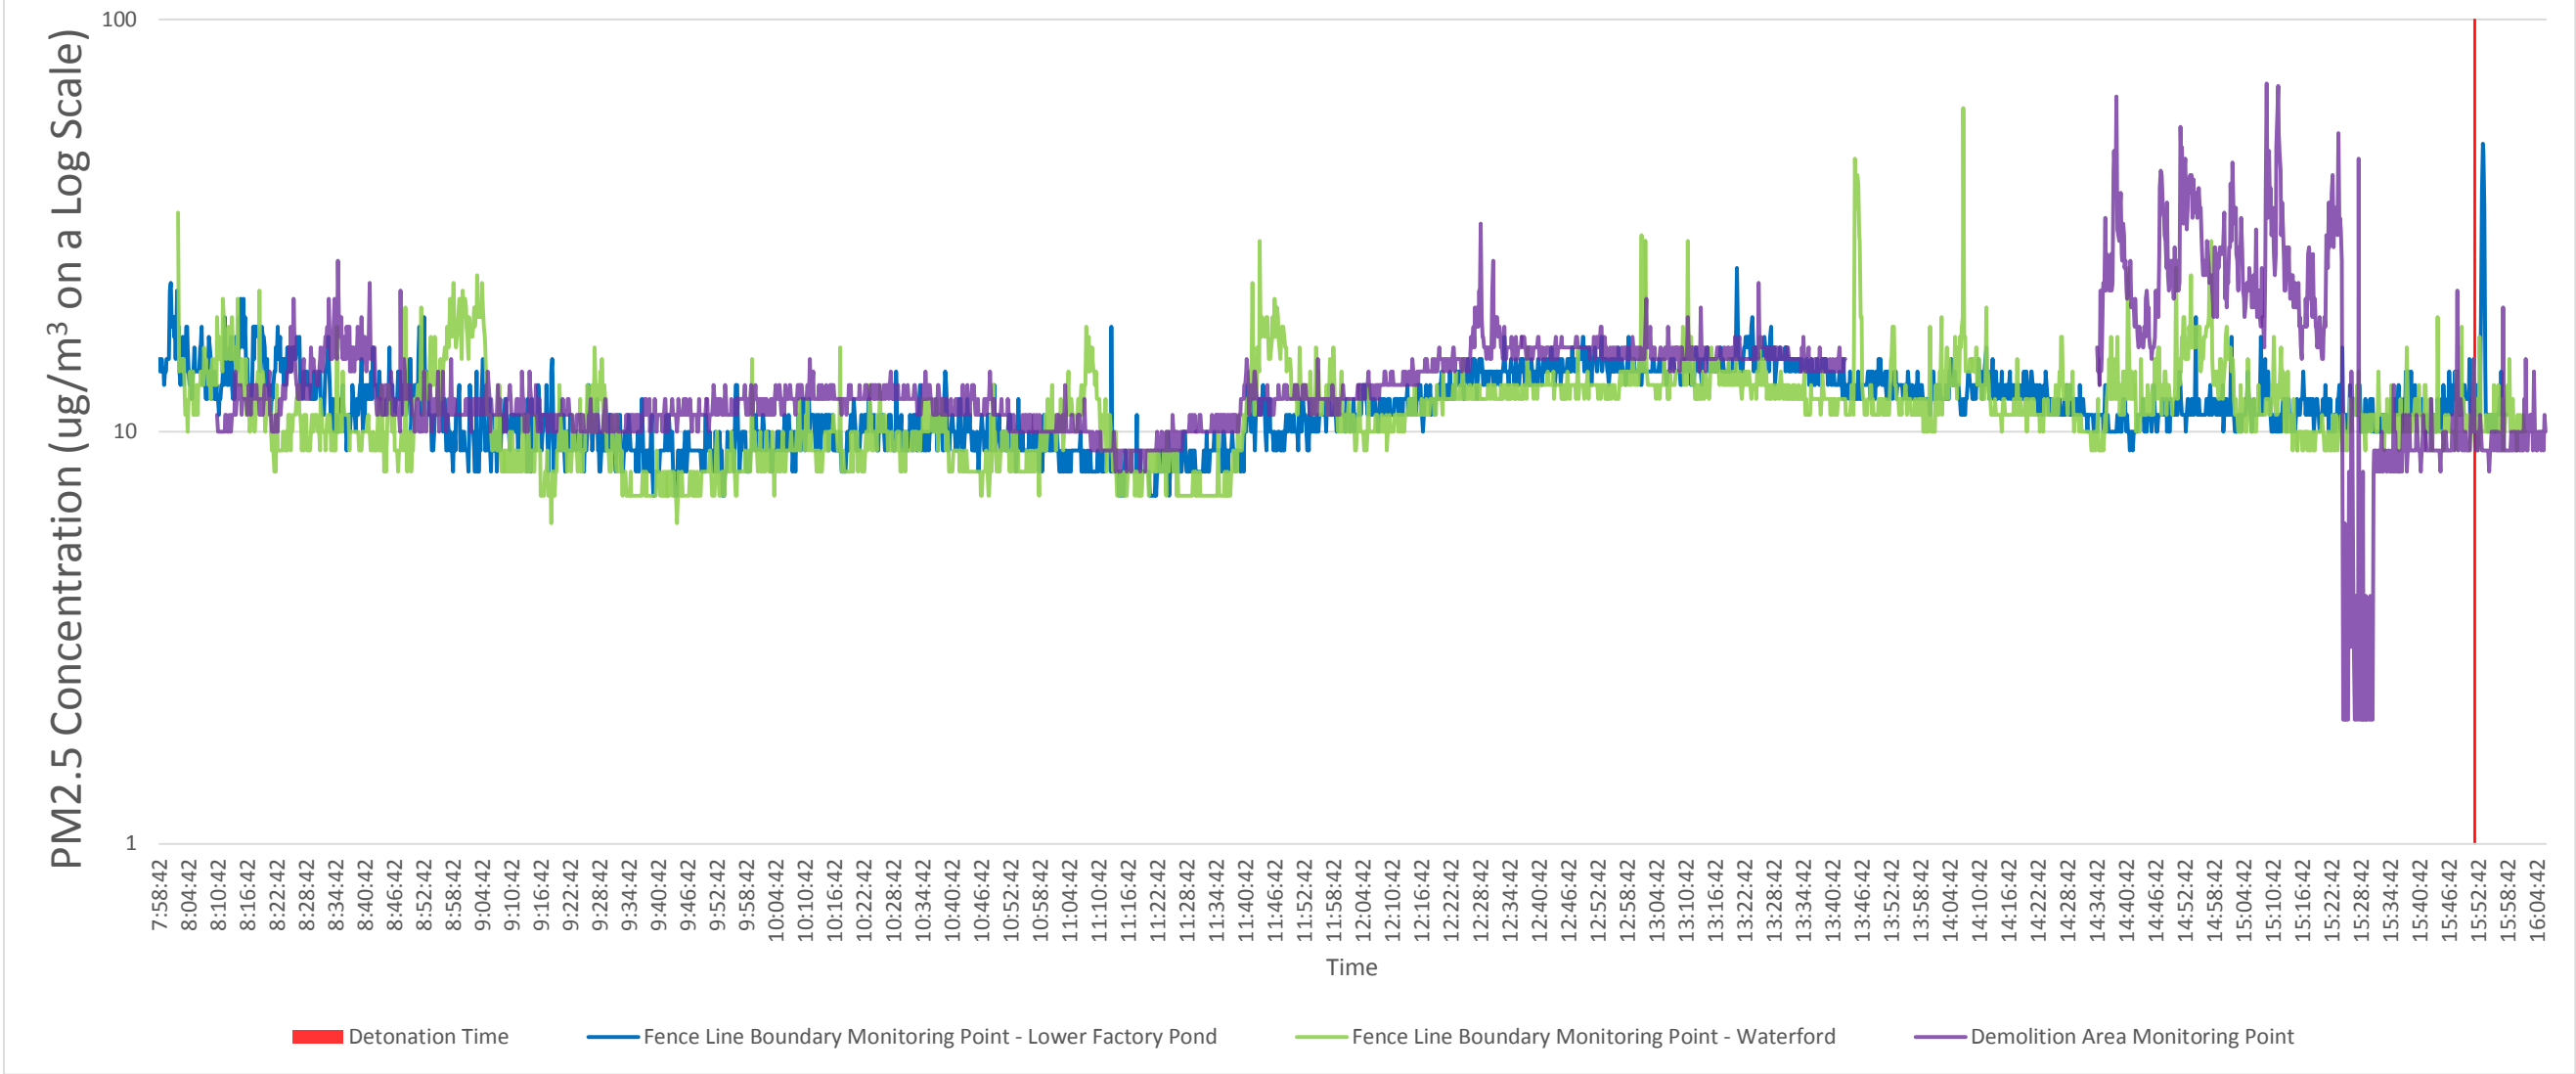

Figure 3-17. Time Series for PM10 Concentrations on 8/8/17
- Figure 3-17. Time Series for PM10 Concentrations on 8/8/17